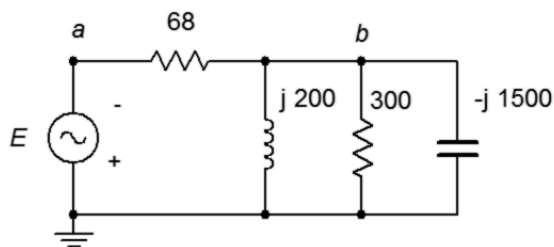

Figure 5.25
51. For the circuit of Figure 5.25, determine the Thévenin and Norton equivalents that drive the combo of $300 \text{ }\Omega$ in parallel with $-j1500 \text{ }\Omega$. Does this combo achieve maximum load power? If not, what combo will achieve maximum power and what is the resulting power? $E = 120\angle 0^\circ$.